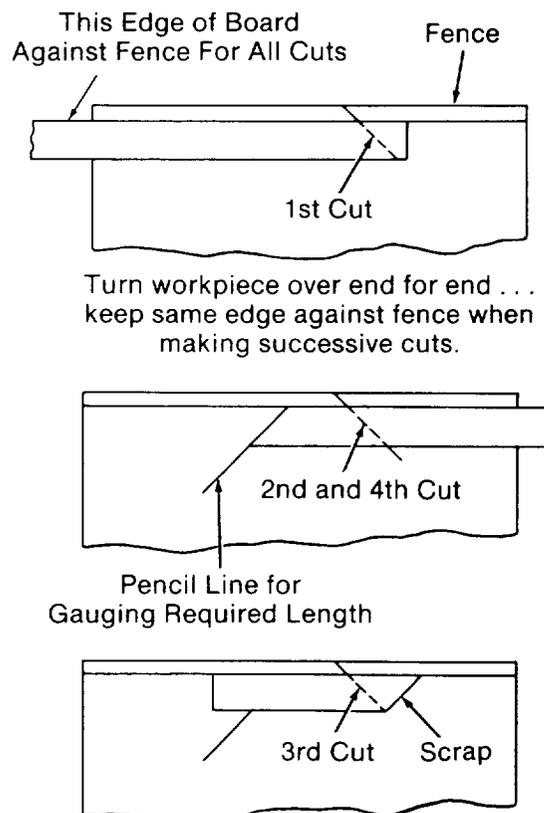

Fig. 138 - Making a 4-Sided Frame
3. Place the same edge of the workpiece against the fence for all cuts. Make the first cut at one end of the workpiece, then flip the workpiece over and make the second cut from the other end. Continue this way until all four cuts are made. (Figure 138)